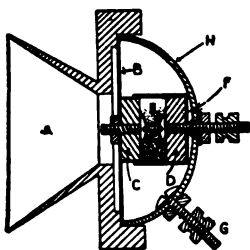

Fig. 2—The Hook in Position
In the middle of the top board bore a hole and put a crochted stick in for the lever to rest on. Bore another hole in the top of the door for the lever to pass through. Two inches from the back of the box bore a hole for the trigger, which should be made out of heavy wire in the manner shown in Fig. 2. The door of the trap must work easily and loosely.
one of the tube projections cut off from each to make a hook, as shown in Fig. 2. The piece marked E shows one of these forgings or hooks in section. The original axle of the bicycle was removed and one $1\frac{5}{16}$ in. longer supplied,
The stand for the wheel shaft is shown in Fig. 2. Arrange the base piece in platform order, (J). This is more fully shown in Fig. 5. On top of this base piece, which is about 36 in. long, place the seat or ring for the revolving table. The circular seat is indicated at I, Fig. 1. This ring is like an inverted cheese box cover with the center cut out. It can be made by a tinner. Size of ring outside, 35 in. The shoulders are 4 in. high and made of tin also. Form the shoulder by soldering the piece on. Thus we get a smooth surface with sides for the mill base to turn in so as to receive the wind at each point to advantage. The X-shaped